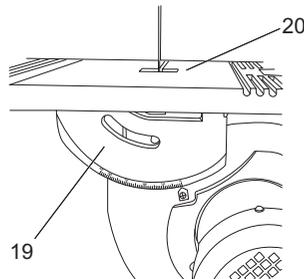

Fig. 3
- > The dial scale (19) of the table (20) must be fitted in the guide on the machine frame. (Fig. 3)
- > The work table (20) is capable of adjustment. Locate the guide on the machine frame and make sure the work table locates into the guide.